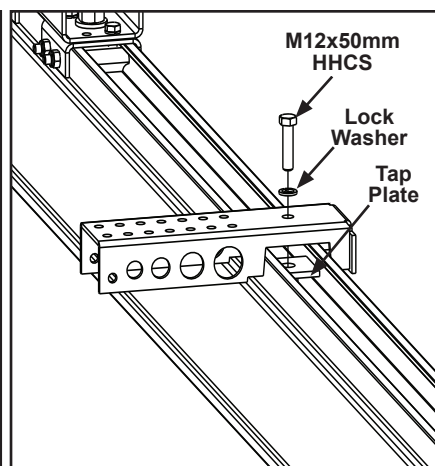

Figure 3-141
- Step 4. Remove the M12 x 50mm mounting bracket bolt and lock washer from the top mounting bracket on the primary rail. Place the tap plate, flat side facing up and welded nut face down, inside the top bracket channel of the primary rail per system layout. See Figure 3-141.
- Step 5. Align top bracket of TRH2020 over the tap plate in the top bracket channel. Insert M12 x 50mm and flat washer through top bracket and into the tap plate. Lift tap plate until threads of the bolt enter the nut welded to tap plate and hand tighten bolt until snug. Repeat for each top bracket of TRH2020 as needed. See Figure 3-141